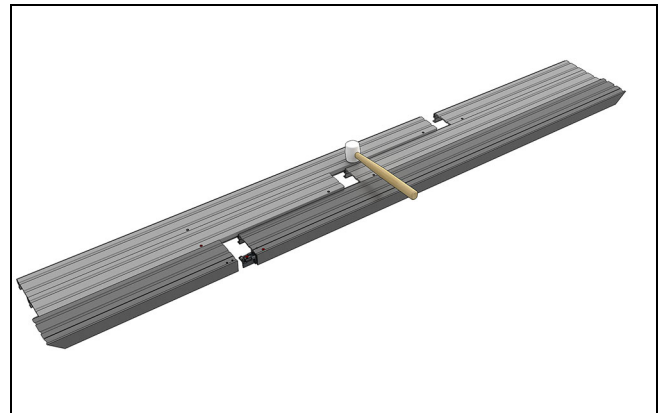

Figure 32
3. Press the splice sections together and seat with a rubber mallet. See Figure 32.